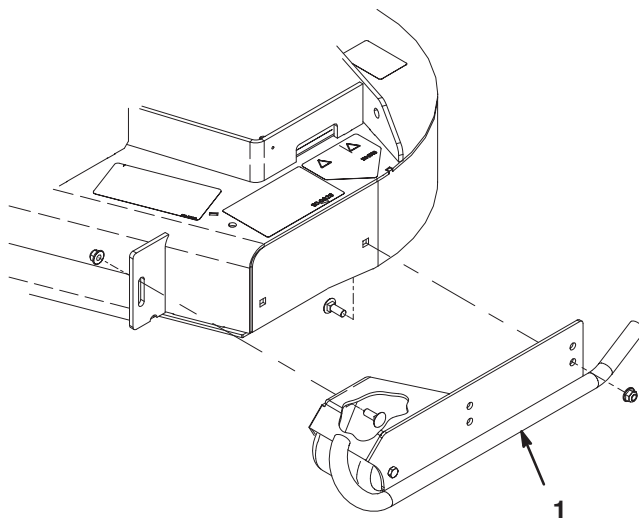

Figure 1
4. Remove the bolts and nuts securing the existing skid assembly to the cutting unit (Fig. 1)